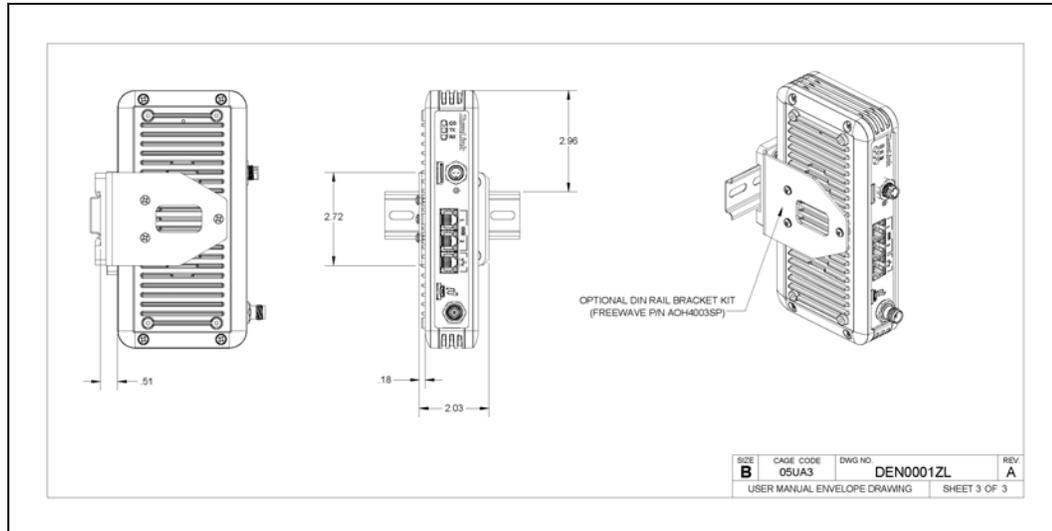

Figure 240: Z9-PE Attached to a DIN Rail with the Power Connection on Top
- b. Mount the **Z9-PE** to the 35mm DIN rail using the rail slide on the enclosure as shown in Figure 240.